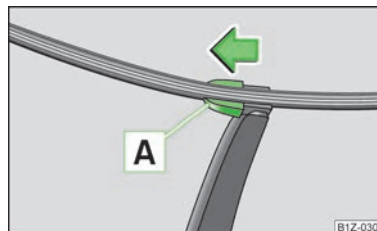

Fig. 37
- › Fold the windscreen wiper arm away from the windscreen and position the wiper blade at a right angle to the wiper arm » Fig. 37.
- › Position the wiper blade onto the wiper arm and lock the locking button **A** » Fig. 37.